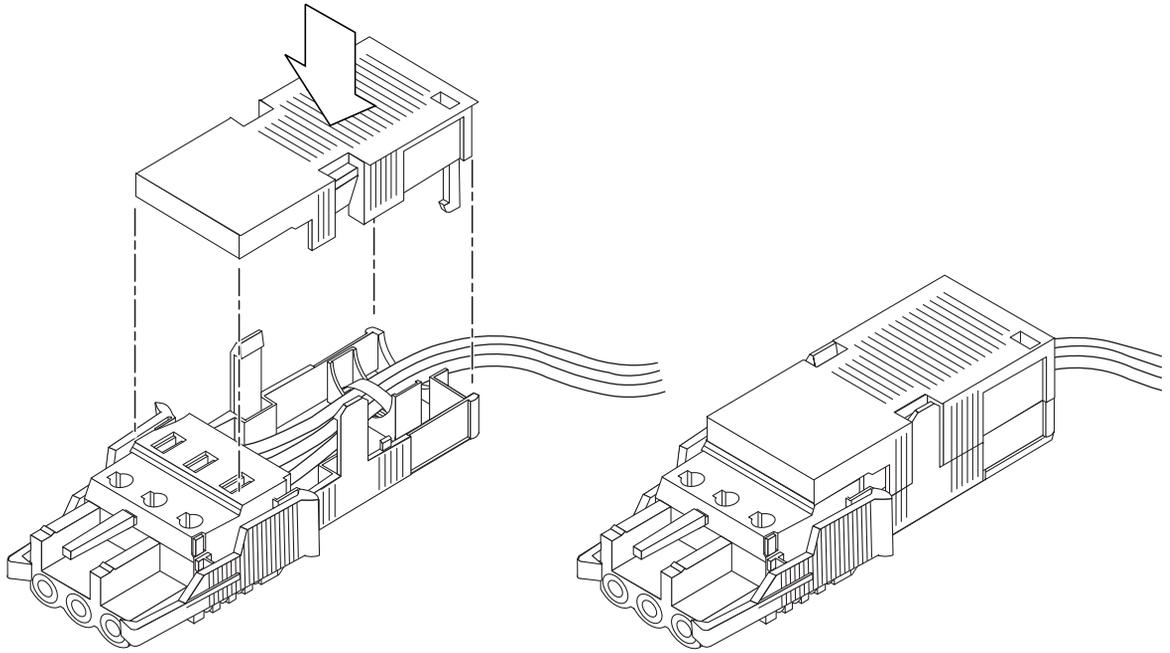

FIGURE 2-12 Assembling the Strain Relief Housing
- 5. Lower the top portion of the strain relief housing (FIGURE 2-12) so that the three prongs on the top portion insert into the openings in the DC connector, and push the top and bottom portions of the strain relief housing together until they snap into place.**